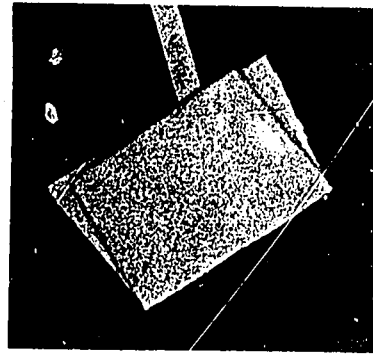

Fig. 4E-13. Gluing Shock Cord to Anchor (Step 3)
9. Bend the middle section over and apply glue to the side on which the shock cord is attached. See Fig. 4E-13.